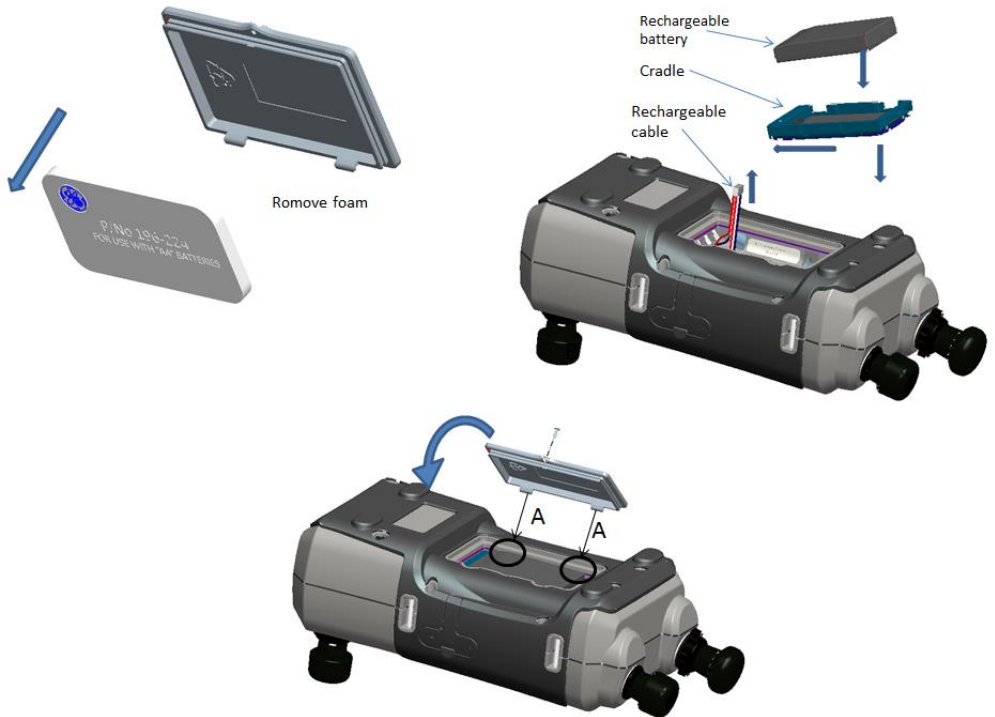

Figure 1-1 Fit Rechargeable Pack
6. Replace the battery cover by pressing the lugs inside the slots (A) and bring down the cover, securing by tightening the fixing screw. (See Figure 1-1).